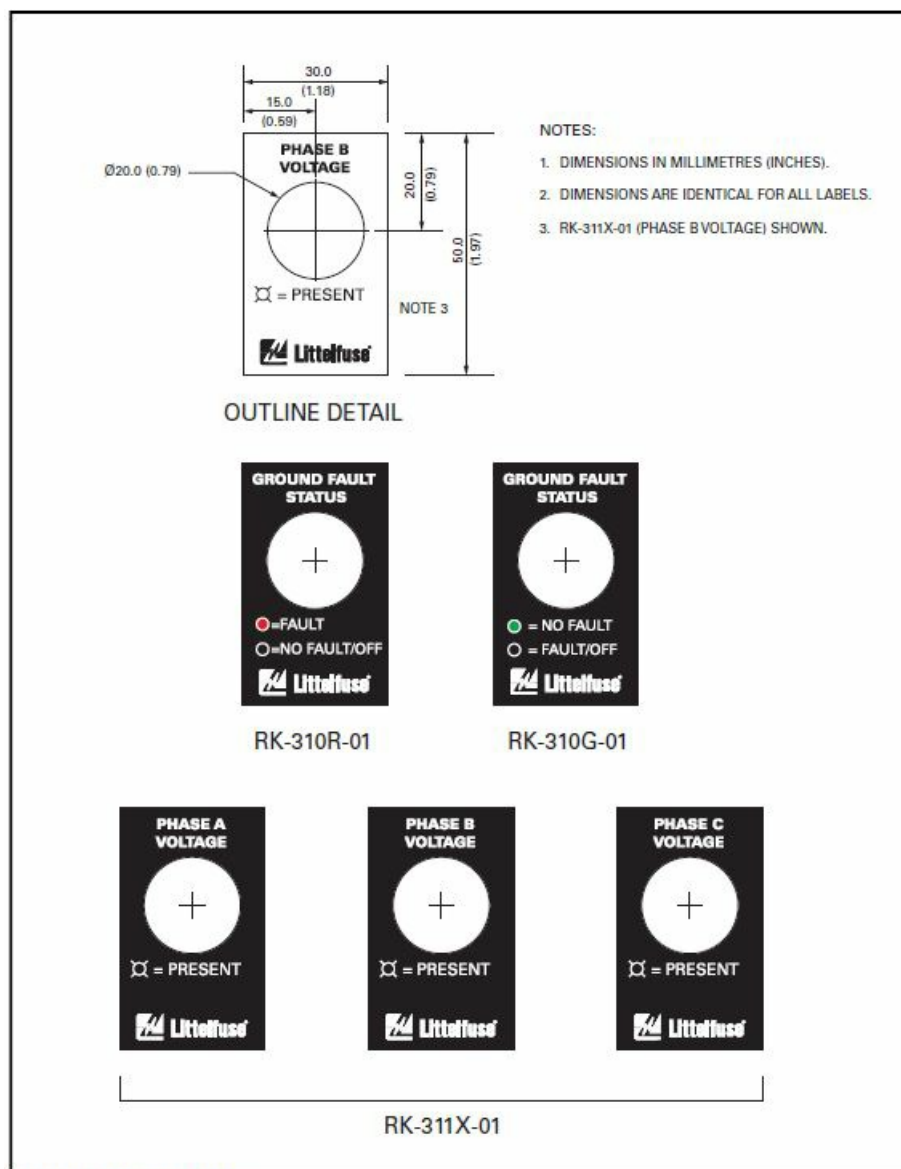

FIGURE 4. Remote LED Labels.
- Remote LED Part Numbers (see Fig. 4 for label details):
- Remote LED labels (Fig. 4) added.